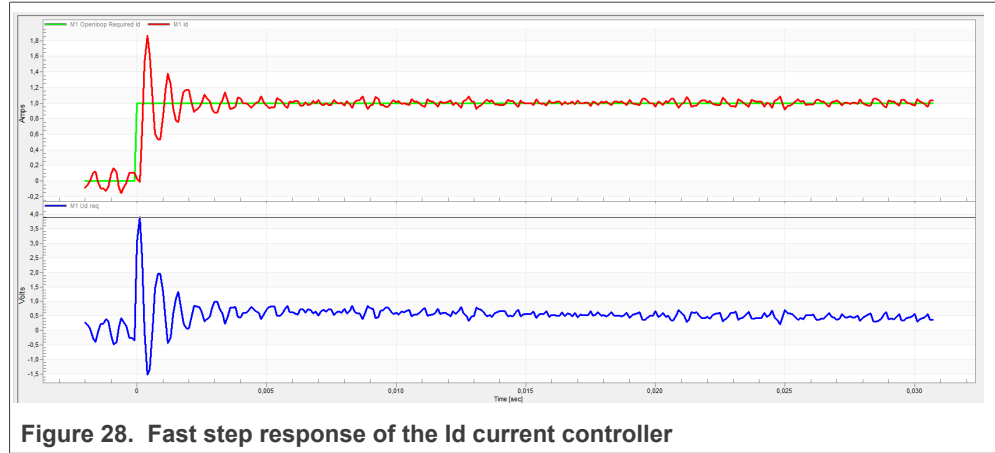

Figure 28. Fast step response of the Id current controller
- The loop bandwidth is high (700 Hz) and the response time of the Id current is very fast, but with oscillations and overshoot (see Figure 28).